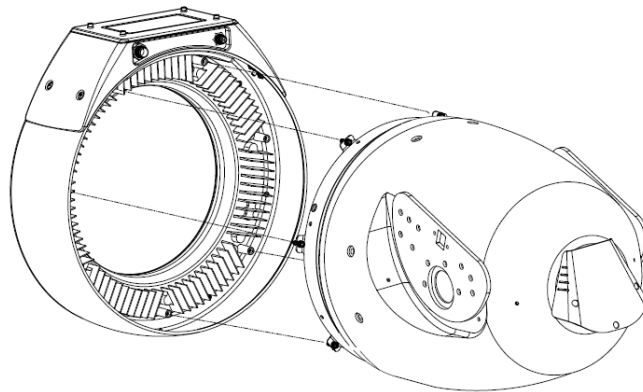

Figure 51 IR LED Ring Removal
3. Unfasten the eight #6 Phillips-head screws at the positions shown in the Figure 51.